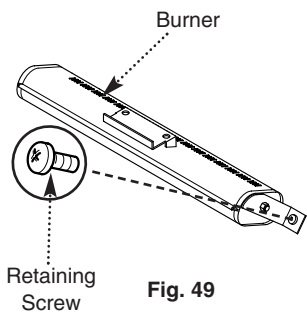

Fig. 49
1. Undo the screw holding the burner to the controls mounting plate, and disengage the burner inlet from the injector (Fig. 49).
2. Using a soft brush, remove any dirt from the burner and ensure that the ports are free from obstruction (Fig. 49).